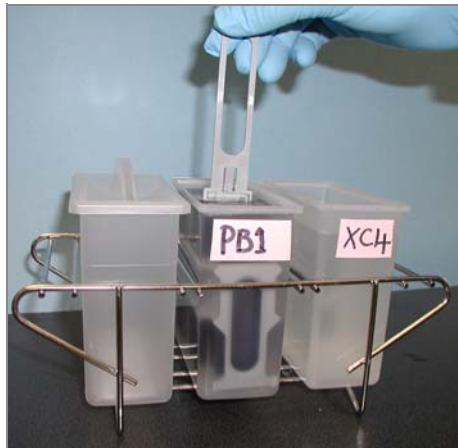

Figure 166 Washing BeadChips in PB1
9. Move the staining rack up and down 10 times, breaking the surface of the PB1 (Figure 166).